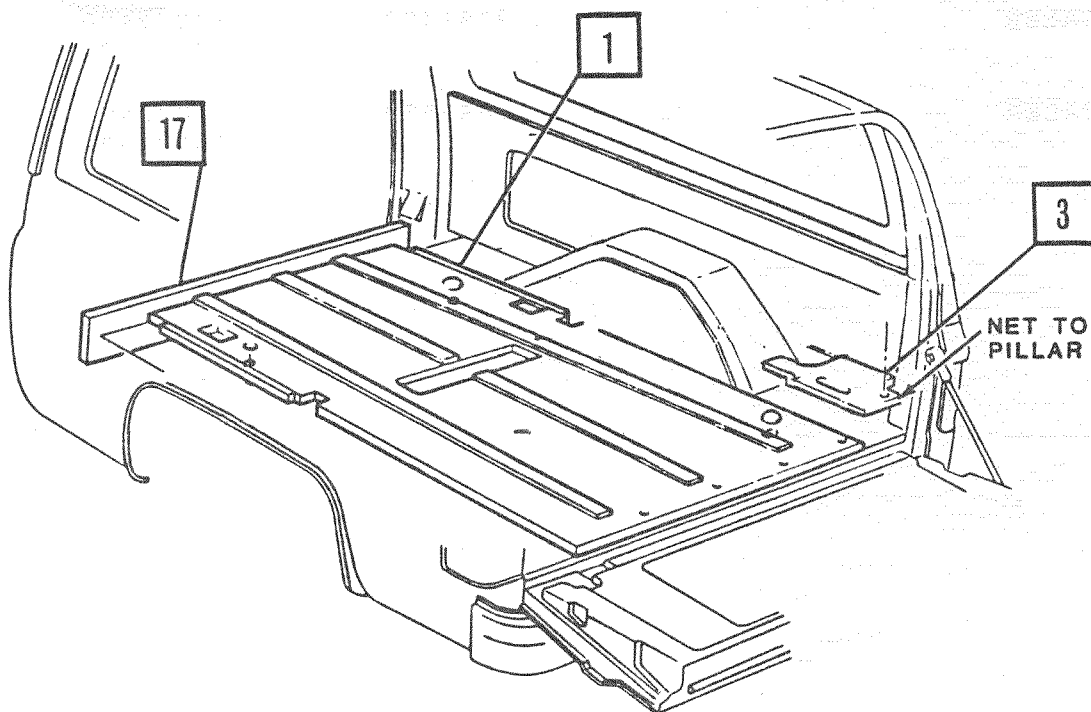

Figure 1.
4. Loosely position plywood floor insulators in vehicle with metal strips showing (Figure 1.).